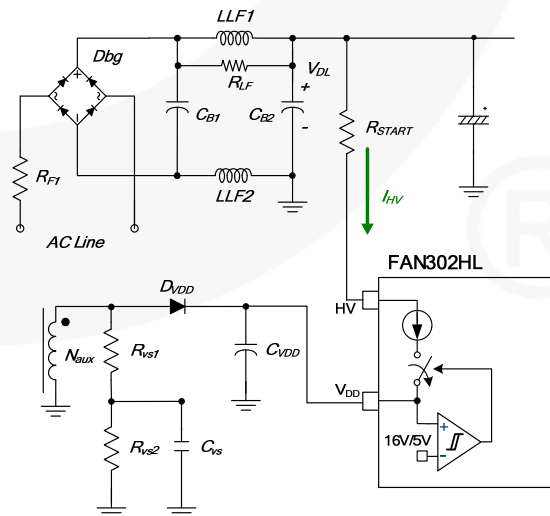
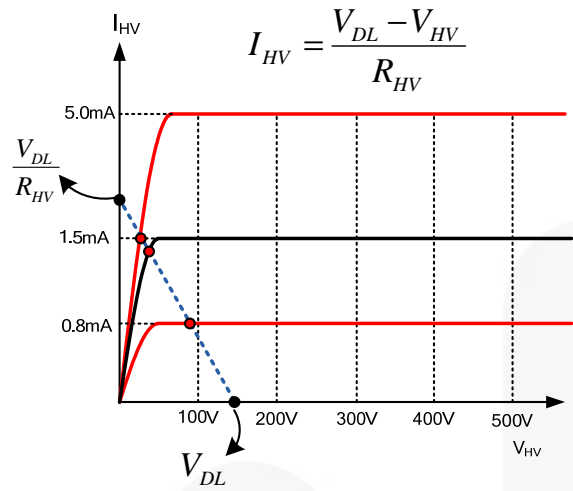

Figure 33. HV Startup Circuit
Figure 34. V-I Characteristics of HV Pin
Figure 33 shows the high-voltage (HV) startup circuit. Internally, JFET is used to implement the high-voltage current source, whose characteristics are shown in Figure 34. Technically, the HV pin can be directly connected to the DC link (V_{DL}). To improve reliability and surge immunity; it is typical to use about a 100 k Ω resistor between the HV pin and the DC link. The actual HV current with given DC link voltage and startup resistor is determined by the intersection of V-I characteristics line and load line, as shown in Figure 34.